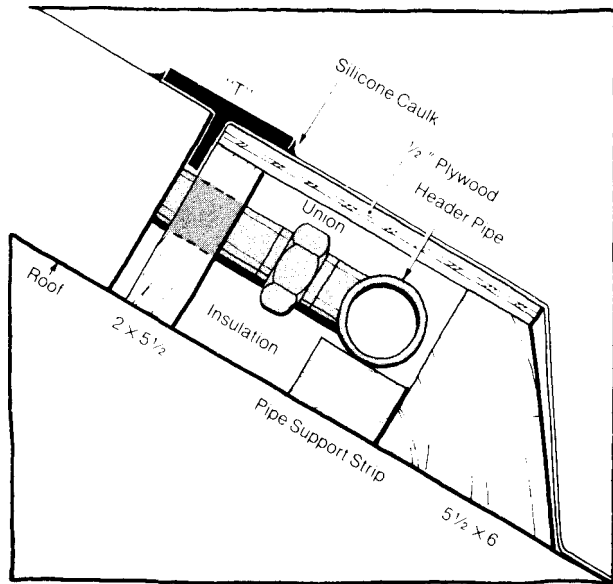

Figure 54A
9. Screw the plywood top of the header box and finish the flashing as shown in Figure 54A. Stuff the box with fiberglass insulation before you close it.